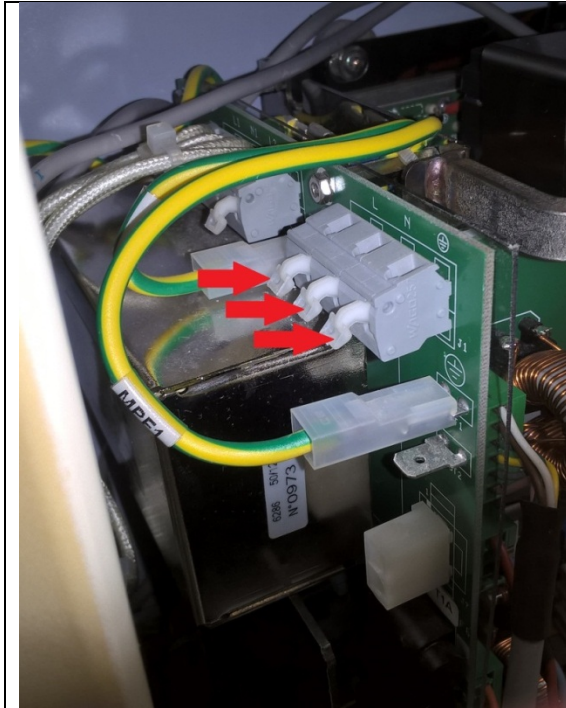
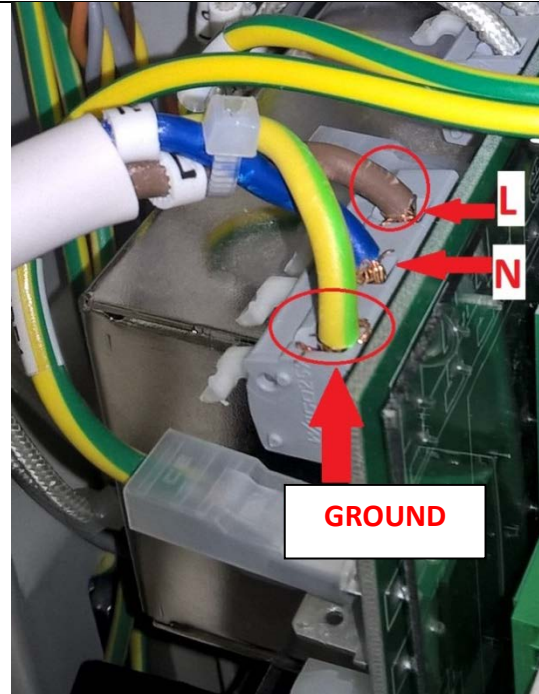

Fig. 19
Fig. 20
17. Connect the three single wires of the power supply cable to the terminal block by depressing the levers and inserting the wires. **(Fig. 19 & Fig. 20)**. Verify that the wires are correctly installed and secured in terminals by gently pulling back on each wire to ensure it's retained by the terminal block.